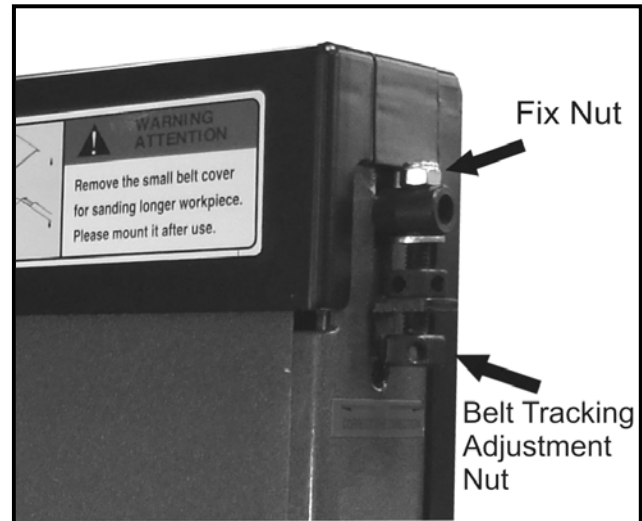

Figure-9 Belt Tracking adjustment
3. Loosen the fix nut shown in figure-9.
4. Check if the sanding belt is tracking left or right. Turn the adjustment nut (shown in figure-9) counter-clock to move the belt right. Turn the adjustment nut clockwise to move the belt left.